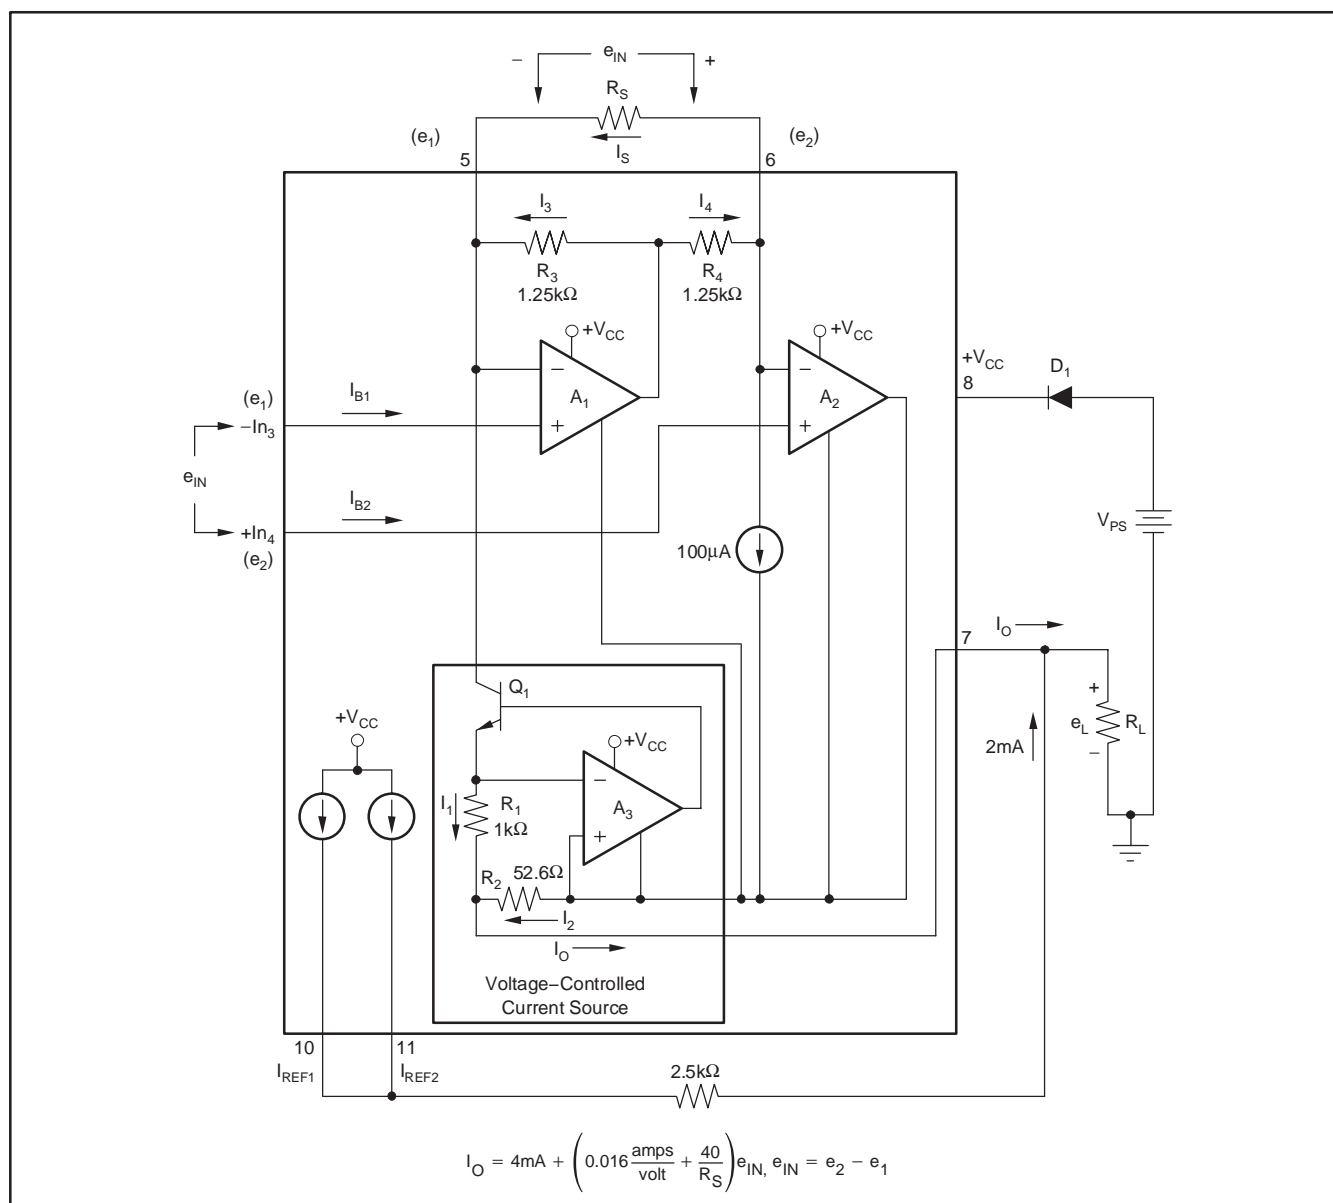

Figure 1. Simplified Schematic of the XTR101
A simplified schematic of the XTR101 is shown in Figure 1. Basically, the amplifiers A_1 and A_2 act as a single power-supply instrumentation amplifier controlling a current source, A_3 and Q_1 . Operation is determined by an internal feedback loop. e_1 applied to pin 3 will also appear at pin 5, and similarly, e_2 will appear at pin 6. Therefore, the current in R_S (the span setting resistor) will be $I_S = (e_2 - e_1)/R_S = e_{IN}/R_S$. This current combines with the current I_3 to form I_1 . The circuit is configured such that I_2 is 19 times I_1 . From this point, the derivation of the transfer function is straightforward but lengthy. The result is shown in Figure 1.
See Figure 1 for the basic connection of the XTR101. A difference voltage applied between input pins 3 and 4 will cause a current of 4-20mA to circulate in the two-wire output loop (through R_L , V_{PS} , and D_1). For applications requiring moderate accuracy, the XTR101 operates very cost-effectively with just its internal drive transistor. For more demanding applications (high accuracy in high gain), an external NPN transistor can be added in parallel with the internal one. This keeps the heat out of the XTR101 package and minimizes thermal feedback to the input stage. Also, in such applications where the e_N full-scale is small ($< 50\text{mV}$) and R_{SPAN} is small ($< 150\Omega$), caution should be taken to consider errors from the external span circuit plus high amplification of offset drift and noise.
7. It is recommended that a reverse polarity protection diode (D_1 in Figure 1) be used. This will prevent damage to the XTR101 caused by a momentary (such as a transient) or long-term application of the wrong polarity of voltage between pins 7 and 8.